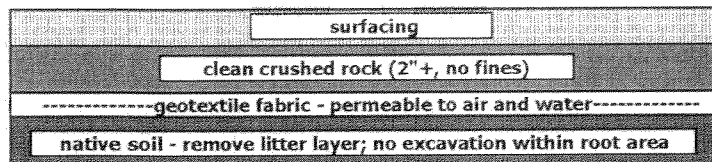

Figure 1. Sample profile for areas within Critical Root Zones. Depth of rock is dependent on grading; Technique based on best management practices.
- Use a modified profile for roadway construction beneath the dripline of the tree that includes a layer of permeable geotextile fabric on the ground surface (Figure 1). If excavation is necessary, work should be performed under arborist supervision.
A sidewalk may be constructed in the future. There is not enough space for a sidewalk between the roadway and the tree, but a sidewalk may be feasible along the west side of the tree. Sidewalk construction should avoid root zone excavation by building up from the existing grade using the modified profile in Figure 1. Please contact me for additional recommendations for tree protection during sidewalk construction when a plan becomes available.